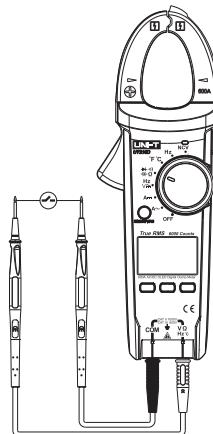

Fig. 8
**7.Conductivity inspection (shown as Fig. 8)**